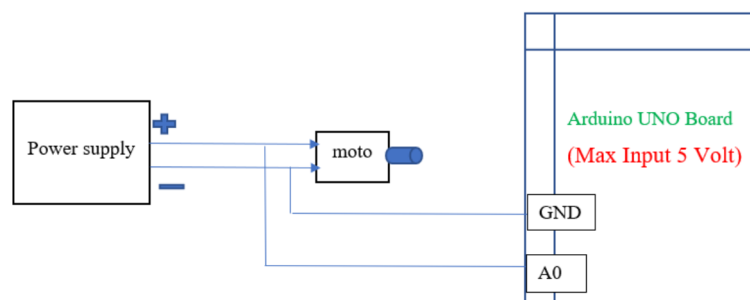

Figure 2: Circuit Diagram
**During the lab:** You will be given a DC motor (Maxon A-max 110947) mounted on a stand, an additional mass to be affixed to the motor shaft, and the tools required for the mechanical assembly. You will also be provided with a power supply and a USB-based Arduino setup for data acquisition. You will need to have MATLAB installed and running on your workstation. Attach the cylindrical mass to the motor, and affix the motor mount on the table. Connect one of the motor terminals to the analog input terminal of the Arduino, and the other one to ground (GND). Start the program Arduino IDE, and set it to record and display the input voltage. Power the motor by connecting the 5V supply from the Arduino to the motor terminal. Make sure that this is the same terminal that is connected to A0 (Fig. 2).